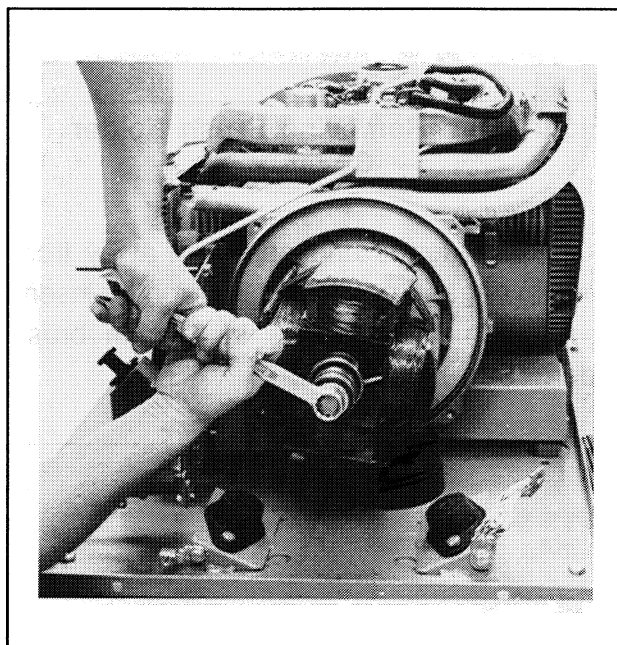

Figure 8-11. Loosening Thru-Bolt
19. Loosen rotor thru-bolt by rotating bolt counter-clockwise with a 3/4 in. socket. See Figure 8-11.